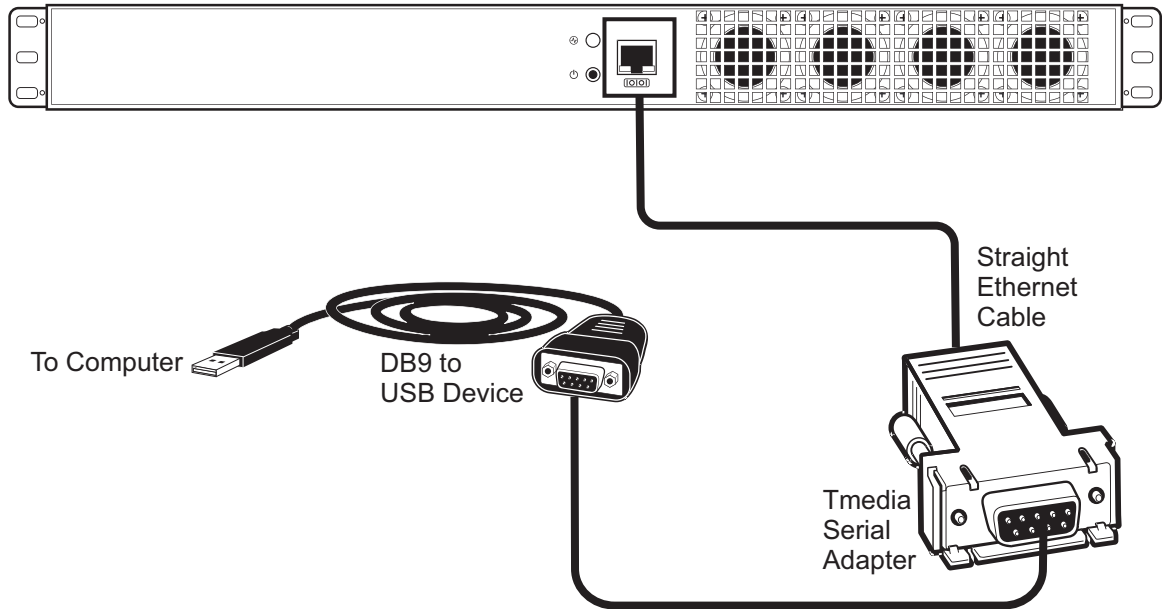

Figure 3.2 USB to DB9 Adapter
2. If your computer's serial port features a DB9 connector, use the DB9 to RJ-45 adapter supplied with your TM3000. If your computer's serial port features a USB connector, you will need to provide a USB to DB9 adapter. See figure 3.2.